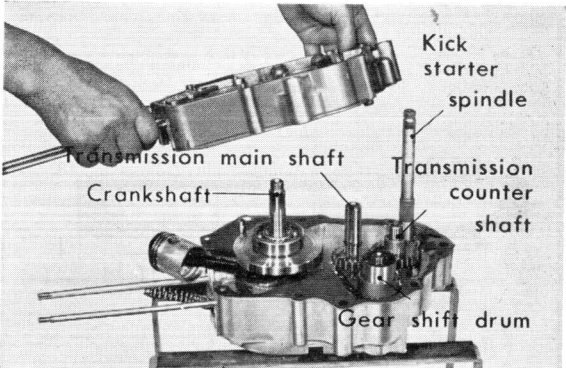

Figure 3-78. Assembling R crankcase
- (1) Check to make sure that the gasket and the two dowel pins are installed on the left crankcase before assembling the right crankcase to it. (Fig. 3-78)